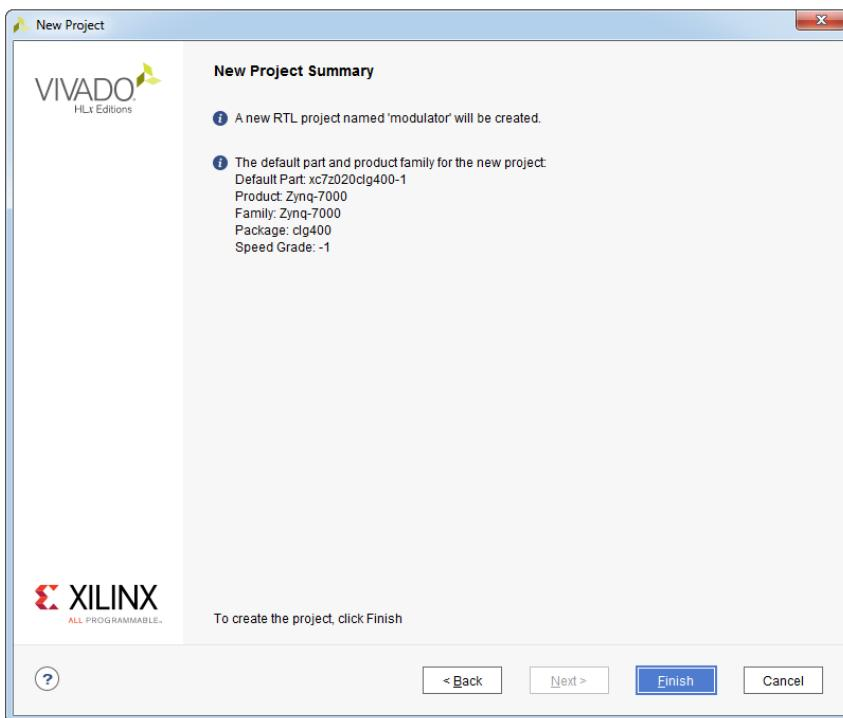

Figure 2.7: New Project Summary dialog box
10. In the **New Project Summary** dialog box click **Finish** if you are satisfied with the summary of your project. If you are not satisfied, you can go back as much as necessary to correct all the questionable issues, see Figure 2.7.